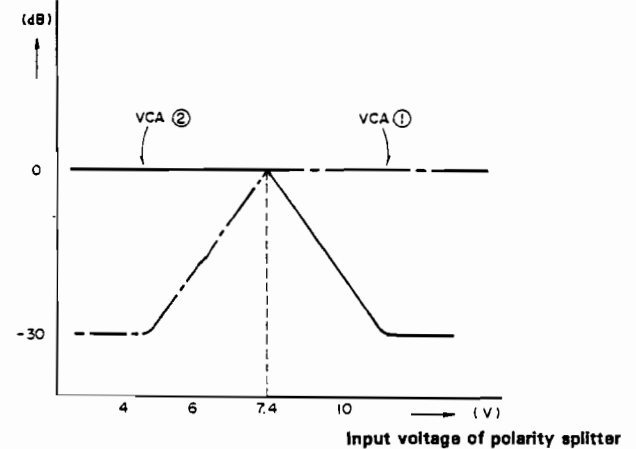

Figure 10-5. VCA (1) and (2) characteristics
6. The polarity splitter controls VCA ① and VCA ② to achieve opposite characteristics as shown in Figure 10-5. The voltage (7.4V) where the gains of both VCA ① and VCA ② become 0dB indicates that at this point the voltage value is the same as the reference voltage (7.4V) which is output from Pin3 (COM terminal) of VCA.
7. Control the signal level to be input to the combining network for deciding respective CHs (L, R, Center and Surround CHs) level with VCA ① to VCA ④.
8. The combining network produces the output of respective CHs (L, R, Center and Surround CHs) by adding or subtracting the signals passed through VCA ① to VCA ④ and the signals input directly to the combining network.